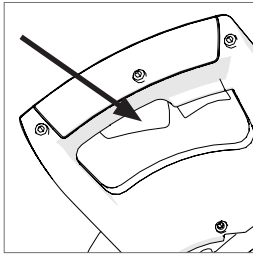

Fig. 25
- Press the lower guard locking trigger to release the Cutting Head. **(Fig. 25)**